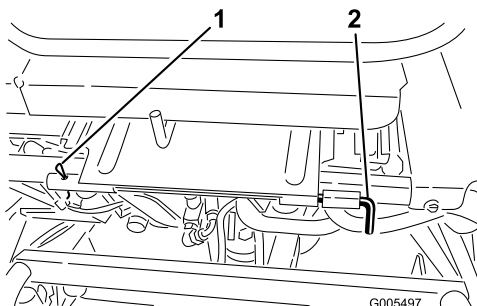

Figure 33
3. Lower the seat and remove the cotter pin securing the seat pivot rod to the frame (Figure 33).